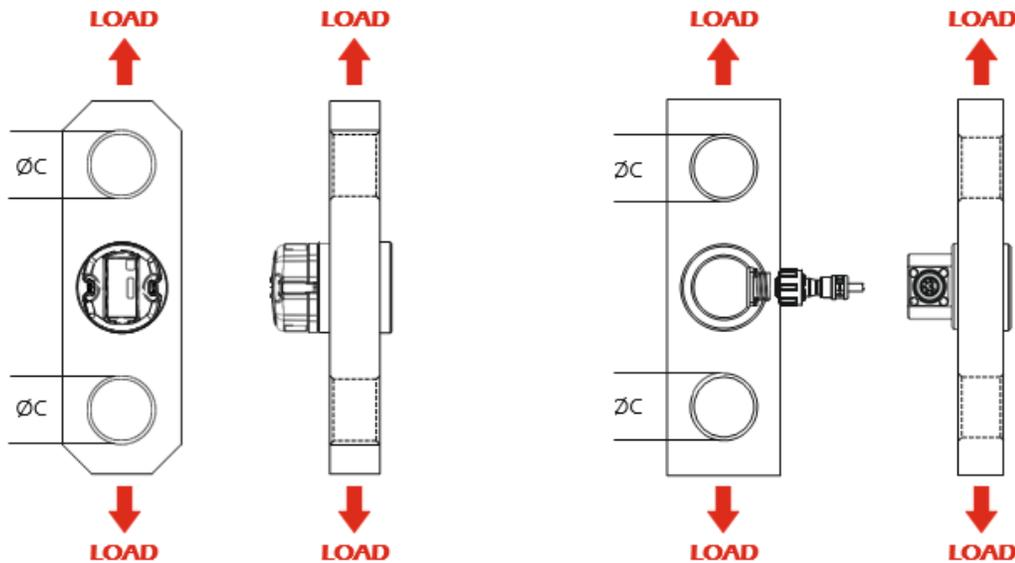
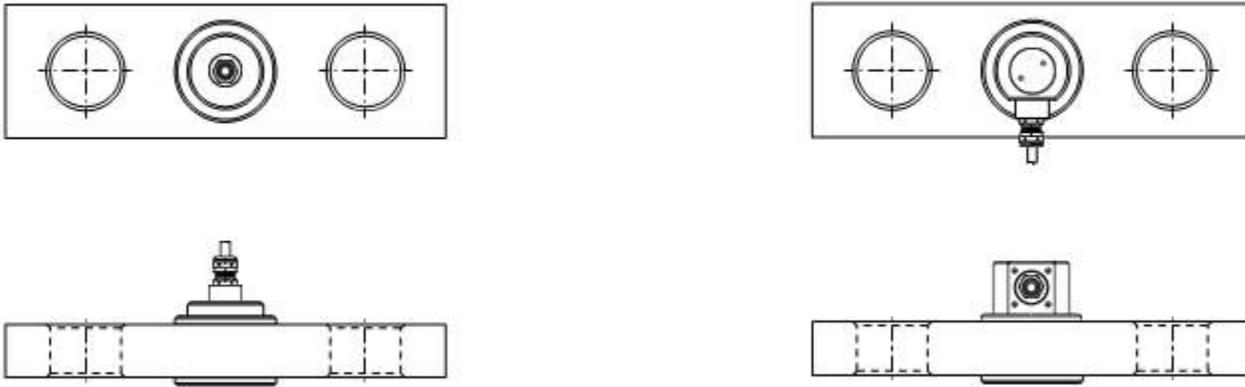

FIGURE 2
FIGURE 4
- The direction of the load applied to a link should be linear as shown in figures 2 & 3.
- The tension link should only be loaded in tension using the $\varnothing C$ holes as shown see figure 2 & 3. See figure 4 for two common examples of installations.
With the tension link installed, check the displayed output is not negative, as this may indicate either a fault, or that a compressive force is being applied to the tension link. See Figures 2 and 3 for details of correct loading.